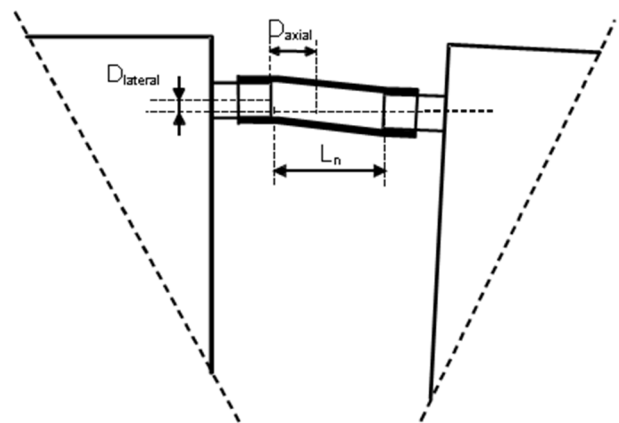

Figure 2: Definition of dynamic load
- Dynamic load: Dynamic dilatation due to thermal expansion (Figure 2).